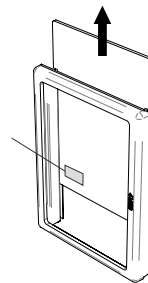

Fig. 77
- The middle glass pane can then be removed upwards (Fig. 77).